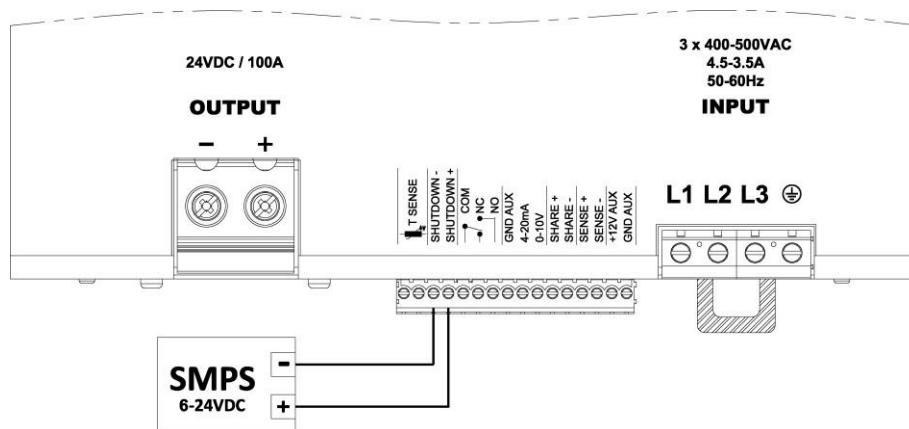

Figure 14 : Remote shutdown input connection with external signal
- External signal:** when applying an external DC voltage as shown on Figure 14 from 6 VDC to 24 VDC to the SHUTDOWN inputs the LDT2400 output will be turned ON or OFF depending on the programmed shutdown polarity (see 6.4.9).